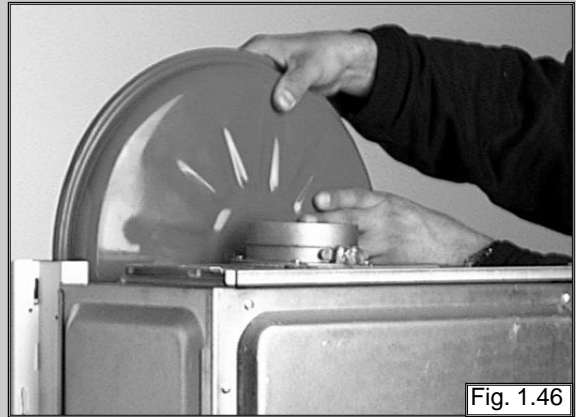

Fig. 1.46
3. Remove expansion vessel (see fig. 1.46).